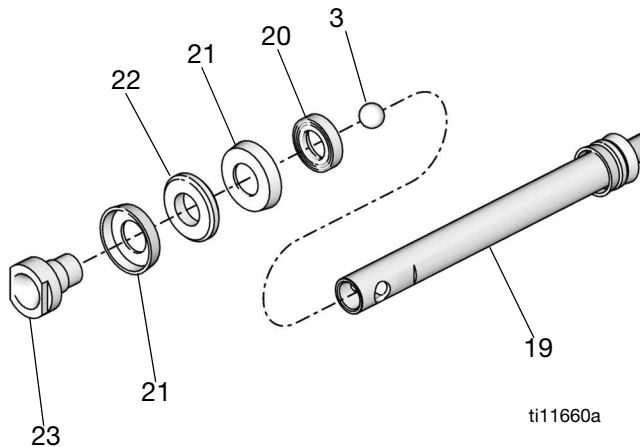

FIG. 17
- Lubricate the piston seals (21) and bearing (22) with no. 2 lithium-based grease. Install one piston seal (21) with the lips facing down, bearing (22), and second piston seal (21) with lips facing up on the piston (23). Install the backup washer (20) with the grooves facing down. See FIG. 17 on page 19.
- Place the ball (3) on top of the piston body (23) and screw the piston body and the fluid piston rod (19) together. Torque to 30-35 ft-lb (41-48 N•m). Screw the piston valve housing (29) onto the lower connecting rod (19). See FIG. 17 on page 19.
- Install the seal (51), with the lips facing down, in the displacement pump frame (36), then install bearing (31).